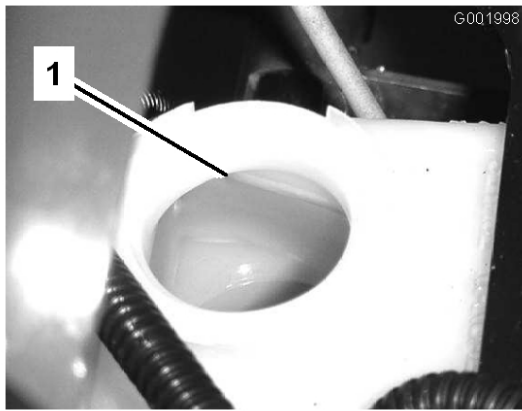

Figure 58
2. The fluid level should be up to the Full line on the reservoir (Figure 58).